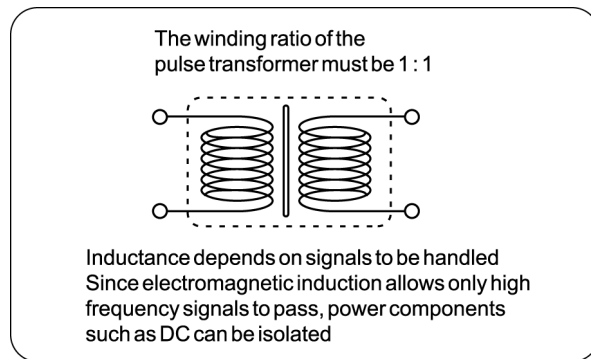

Fig. 9.1 Pulse Transformer
- (1) Electronic components (such as circuit boards) containing center ICs and satellite ICs in the HLS can be electrically insulated from the network (Fig. 9.1).
- (2) If there is no pulse transformer and a failure occurs where the driver continuously drives the network, all signal transmissions will cease, forcing the entire user system to stop. If used, a pulse transformer never allows DC components to pass. Therefore, only inoperable terminals fail to transmit signals, having no adverse effect on other terminals.
- (3) If external noise enters the network, a pulse transformer prevents it from reaching receiver components directly. This results in an increased ability to guard against external noise.